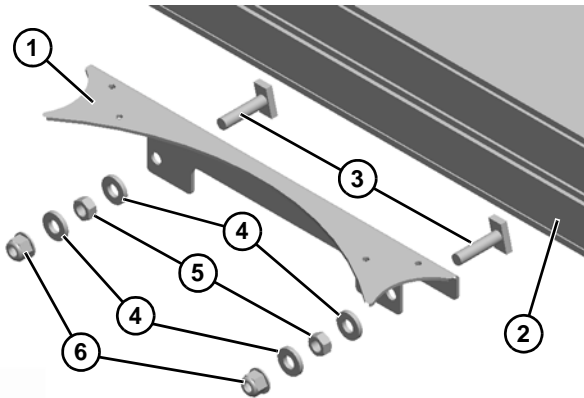

Figure 47
1. Install conveyor tie plate (Figure 47, item 1) to straight conveyor section (Figure 47, item 2) with two M8 x 35 mm studs (Figure 47, item 3), washers (Figure 47, item 4), and hex nuts (Figure 47, item 5).
2. Thread on hex nuts (Figure 47, item 6) a couple turns at this time.